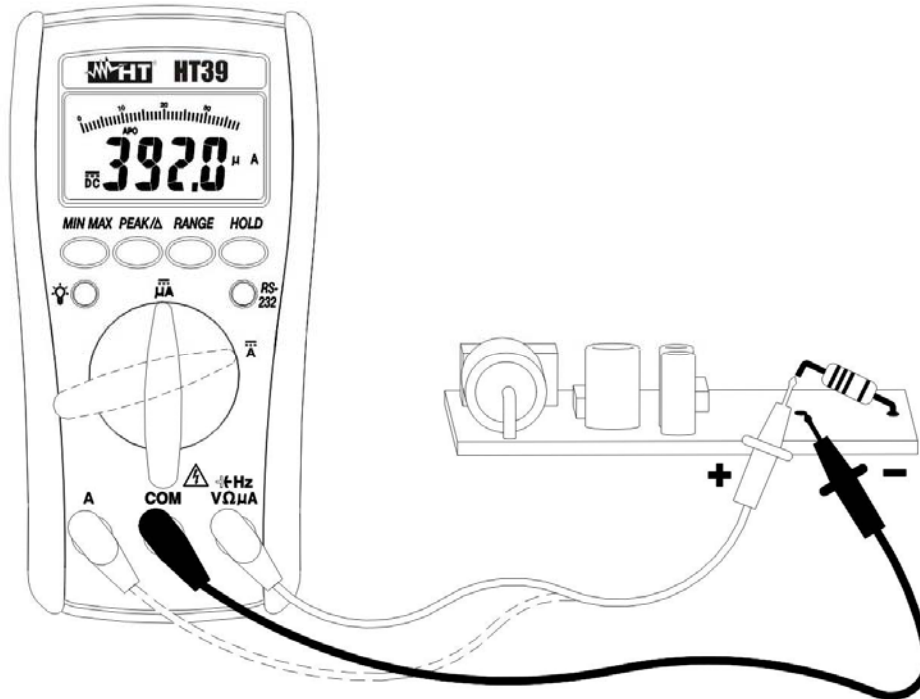

Fig. 5: DC current measurement
3. Insert the red test lead into **A** jack and the black plug into **COM** jack (Fig. 5).
4. Connect red and black plugs in series with the circuit under test respecting the polarity and current flow indicated in Fig. 5.
8. The symbol "-" on the display means that current has opposite direction than shown in Fig. 5. Press **RANGE** key for manual range only active in $\overline{=}$ μ A position of the rotary selector.
4. Connect red and black plugs in series with the circuit under test as indicated in Fig. 5